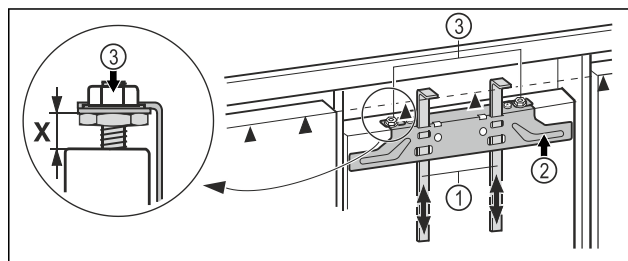

Fig. 19
- Push the assembly aids Fig. 19 (1) up to the height of the unit door. Lower stop edge ▲ of the assembly aid = upper edge of the unit door to be assembled.
- Unscrew the fastening crossbeam Fig. 19 (2) using the lock nuts Fig. 19 (3).